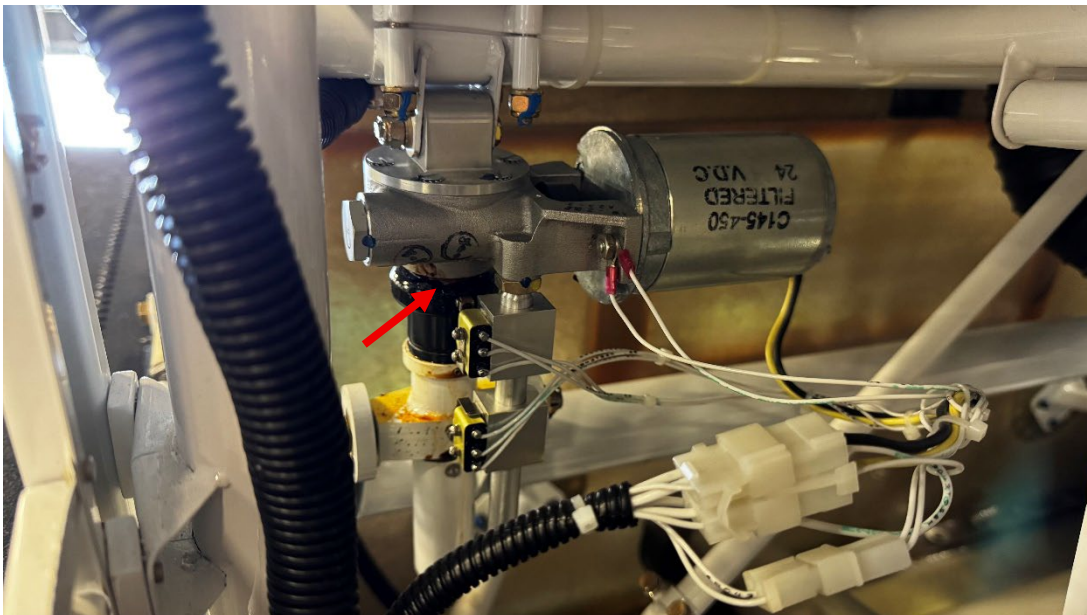

Figure 2 (510)
2. Locate flap actuator to find flap microswitch ring. (Reference Figures 2 & 3)